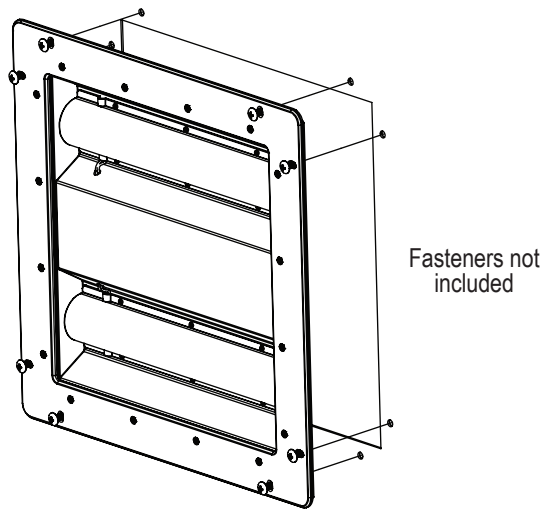

Fig. 2a
- Recess option. Installed from inside the booth (Fig. 2a).